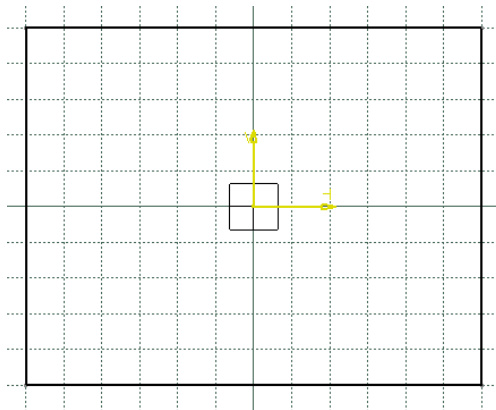

Figure 1-44 Outer loop of the sketch
- b. Draw the sketch of the model using the **Rectangle**, **Profile**, and the **Circle** tools, refer to Figures 1-44 through 1-46.
3. Move the cursor to the location whose coordinates are 60, 50 and specify the upper right corner of the rectangle. Figure 1-44 shows the outer loop of the sketch drawn using the **Rectangle** tool.